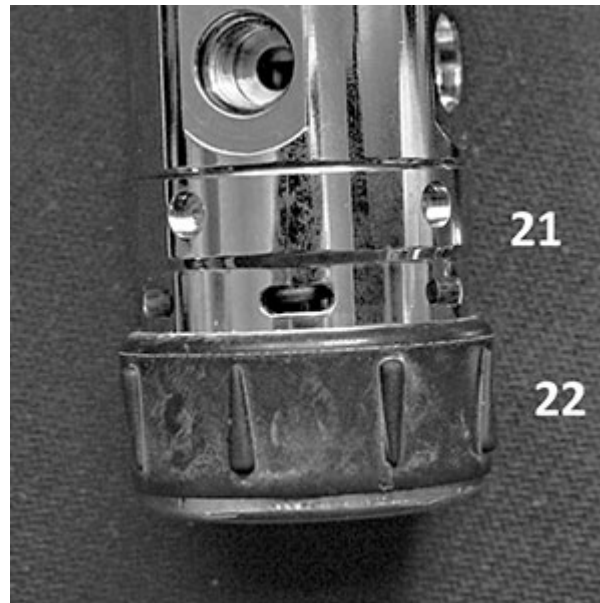

Fig. 25
4. Install the Plastic Cap (22) on the Lower Body (21) - Fig. 25.